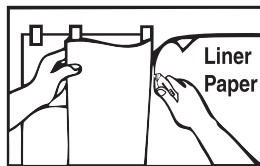

FIGURE 3
2. Fold half of the decal hinge, peel off liner to tape hinge, cut liner along hinge and discard. (FIGURE 3)